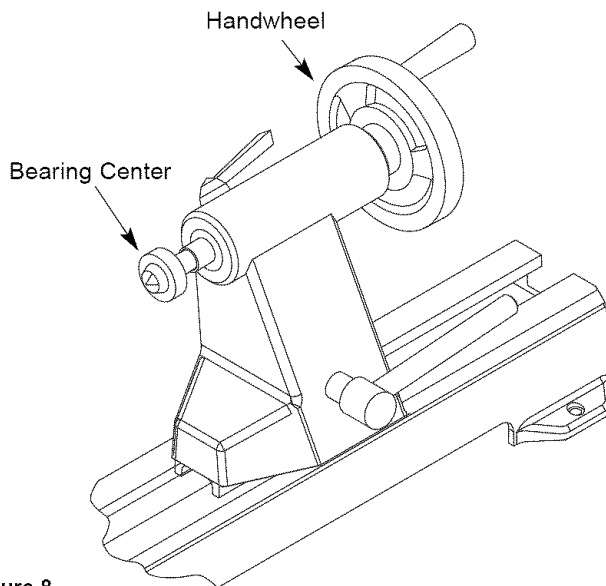

Figure 8
- To remove bearing center from tail stock ram, turn handwheel counterclockwise. Refer to Figure 8.